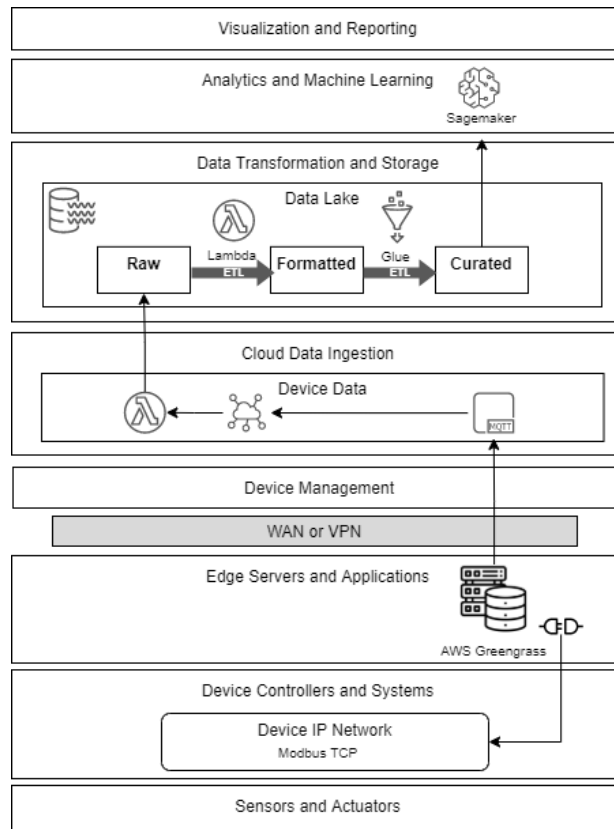

Figure 12.2 – Target ML architecture
*Figure 12.2* outlines our target architecture for this example, so let's walk through the areas on which we will focus: